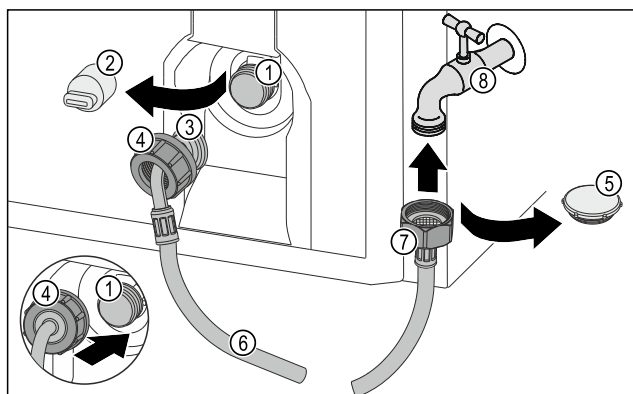

Fig. 55
- Remove the closure cap Fig. 55 (5).
- Place the straight end of the hose Fig. 55 (7) on the tap Fig. 55 (8).
- Tighten the nut at the straight end of the hose Fig. 55 (7) in a clockwise direction.